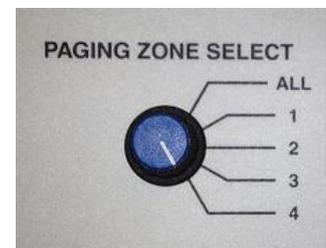

Figure 6.
13. Fit the knob and the cap so that it aligns with position "4" (Figure 6).